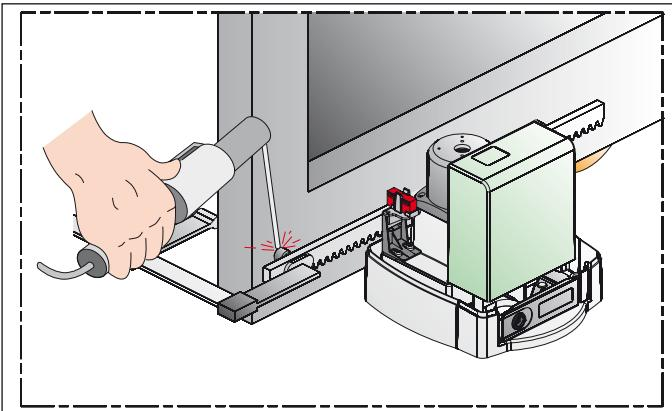

Fig. 10
4. Lay the first element of the rack on the pinion, on the first spacer (fig. 10).
10. Weld the element's three spacers (fig. 10).